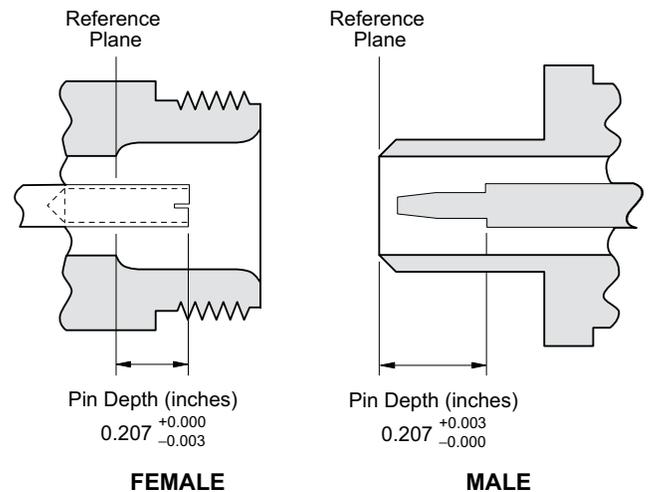
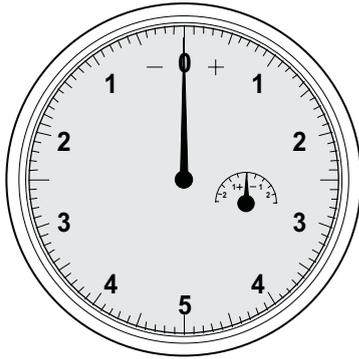

Figure 2. N Connector Pin Depth Definition
Figure 3. Pin Depth Gauge Scale
- a. **Beware of Destructive Pin Depth on Mating Connectors.** Before mating, measure the pin depth (Figure 2) of the device that will mate with the termination, using a pin depth gauge (Figure 3) or equivalent. Based on terminations returned for repair, destructive pin depth of mating connectors is the major cause of failure in the field. When the termination is mated with a connector having a destructive pin depth, damage will likely occur to the termination. (A destructive pin depth has a center pin that is too long in respect to the connector's reference plane.)
The center pin of termination connectors has a precision pin depth tolerance. Connectors on test devices that mate with terminations may not be precision types and may not have the proper depth. They must be measured before mating to ensure suitability. When gauging pin depth, if the test device connector measures out of tolerance (Table 3) in the “+” region of the gauge (Figure 3), the center pin is too long. Mating under this condition will likely damage the termination connector. On the other hand, if the test device connector measures out of tolerance in the “-” region, the center pin is too short. While this will not cause any damage, it will result in a poor connection and a consequent degradation in performance.